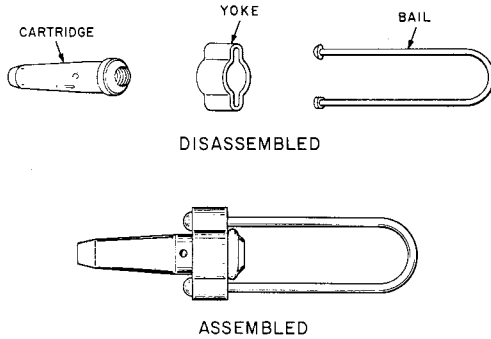

Fig. 12—Strandvise
4.01 The Strandvise, (Fig. 12) consists of a cartridge, a yoke, and a bail. The cartridge encloses a spring-loaded, three-jaw chuck which grips the strand.